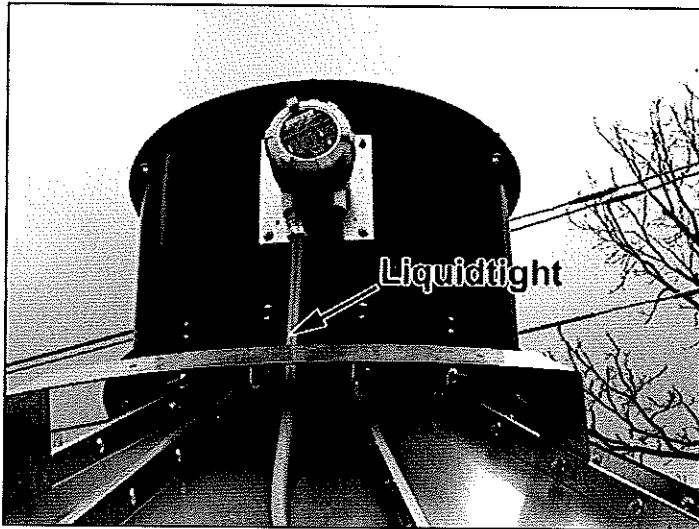

Figure 37
- Start with running liquidtight from the roof section down to the High Voltage Cabinet. See Figure 37. When the Installer is dropping the liquidtight down from the top of the dryer, the receiving tube should rotate at the top of the dryer so the Rotary Slicer blade is oriented properly for this dryer's wet grain in-feed style.